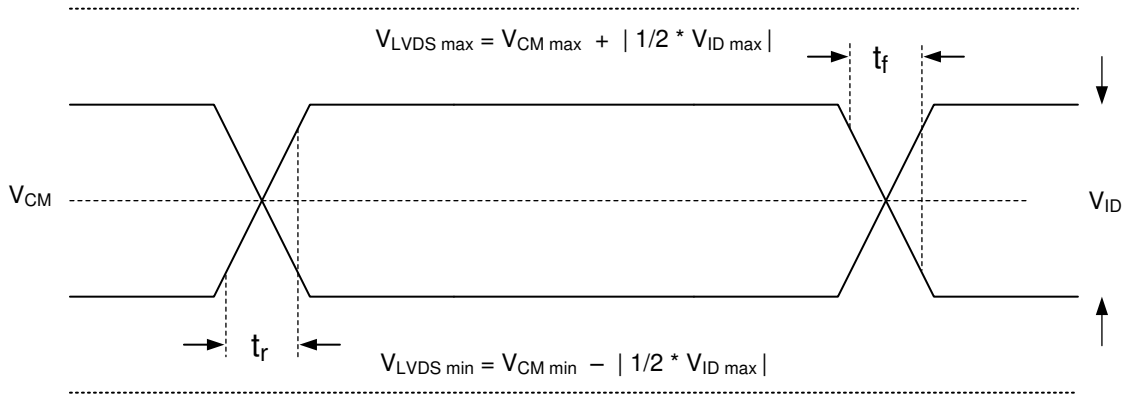

Figure 6-5. LVDS Waveform Requirements
- (10) See Figure 6-5 LVDS Waveform Requirements.
- (11) Simultaneous exposure of the DMD to the maximum Recommended Operating Conditions for temperature and UV illumination reduces device lifetime.
(2) See Figure 6-5 for Timing Requirements for LVDS.
(3) Channel C (Bus C) includes the following LVDS pairs: DCLK_CN and DCLK_CP, SCTRL_CN and SCTRL_CP, D_CN(15:0) and D_CP(15:0).
(4) Channel D (Bus D) includes the following LVDS pairs: DCLK_DN and DCLK_DP, SCTRL_DN and SCTRL_DP, D_DN(15:0) and D_DP(15:0).